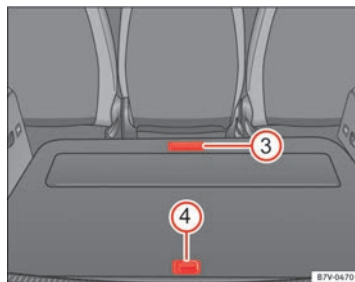

Fig. 115 Other compartments in the luggage compartment floor
| Open the front compartment⇒ fig. 115 ③: | ▷ Pull the front of the luggage compartment floor back using the handle.  |
| Open the rear compartment⇒ fig. 115 ④:  | ▷ Lift the rear of the luggage compartment floor using the handle.  |